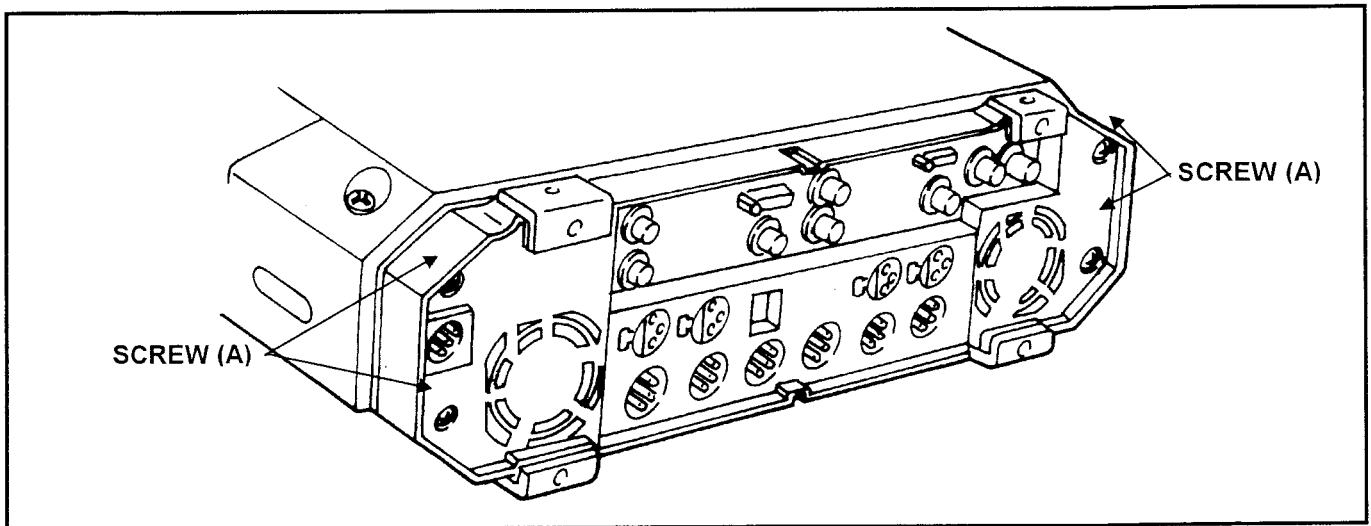
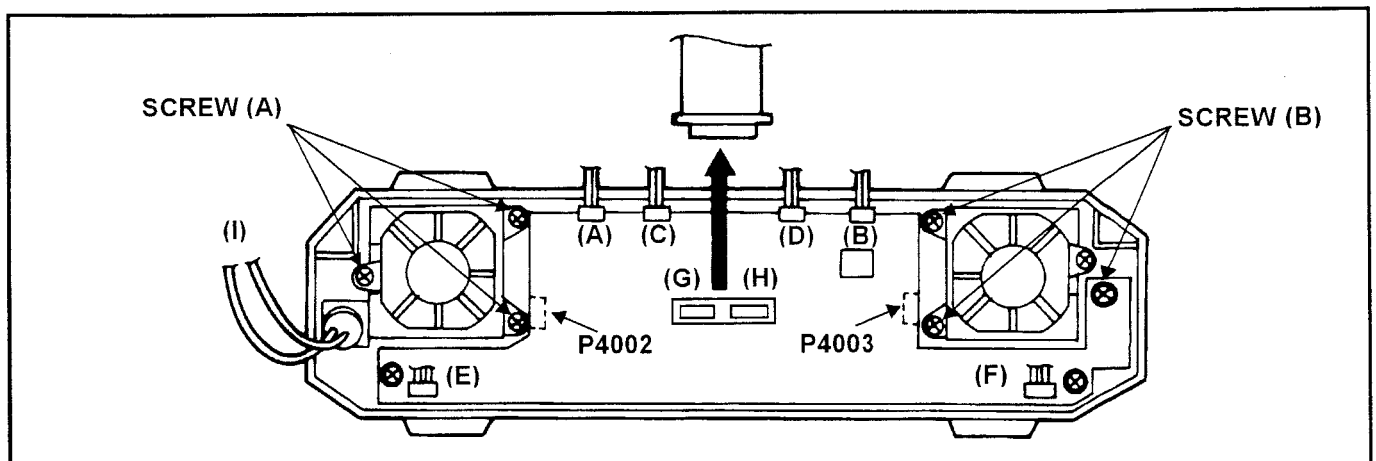

Figure 13
Figure 14
1. Unscrew the 4 screws (A) as shown in Figure 13 and disconnect the connector (A): P4004, (B): P4005, (C): P4006, (D): P4007, (E): P4012, (F): P4011, (G): P4010 and (H): P4008 on the Rear Jack P.C.Board as shown in Figure 14.
2. Disconnect the Connector (I): P1201 on the DC CONV 2 P.C.Board, then remove the Rear Panel Unit as shown in Figure 14.
2. Unscrew the 6 screws (A) and (B), then remove the Fan Motor Fixed Plate as shown in Figure 14.
3. Disconnect the connector P4002 and P4003 on the Rear Jack P.C.Board, then remove the Fan Motor as shown in Figure 14.